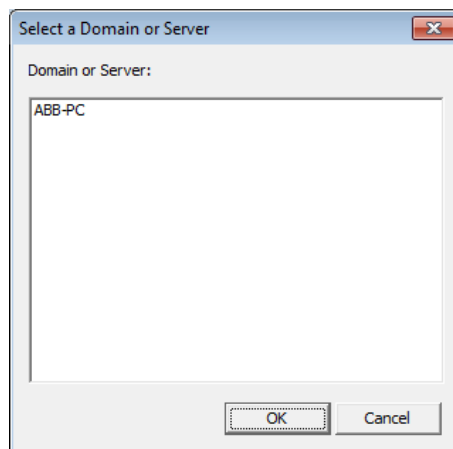

Figure 27. Select a Domain or Server Dialog Box
- h. A Select a Domain or Server dialog box similar to the one shown in Figure 27 appears. There will be one or more possible selections. Select the correct Domain or Server and click **OK** to return to the Browse for a User Account dialog box.